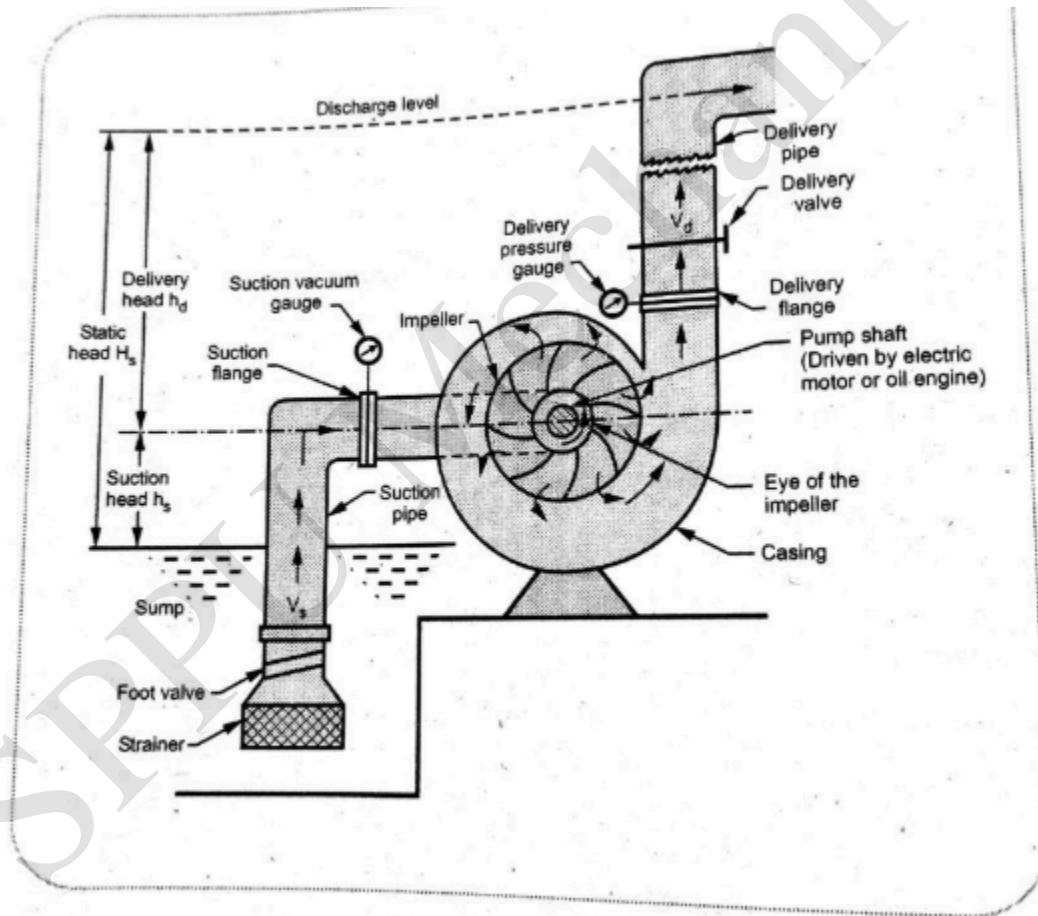

Fig. 5.2 : Components of a centrifugal pump
a) **Suction Head (h_s)** : It is the vertical distance between level of sump and eye of an impeller. Refer Fig. 5.2. It is also called as **suction lift**.